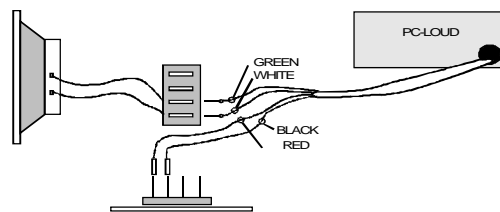

FIGURE 2C
4. Connect the Green and White wires of the PC-LOUD cable to the speaker connector. Polarity does not matter. (Figure 2C)
The Green and White wires of the PC-LOUD Speaker cable are used to connect to the cable from the PC speaker. Insert the pins at the end of the Speaker cable into the connector housing of the PC speaker wire. PC-LOUD is not sensitive to which wire goes to which lead of the speaker (Polarity does not matter). (Figure 2C)
Use the Red and Black wires of the PC-LOUD Speaker cable connect to the pins on the motherboard that connected to the speaker leads. Slide the ends of the Speaker cable wires over the pins on the motherboard. PC-LOUD is not sensitive to which wire goes to which pin on the motherboard. (Polarity does not matter). (Figure 2C)